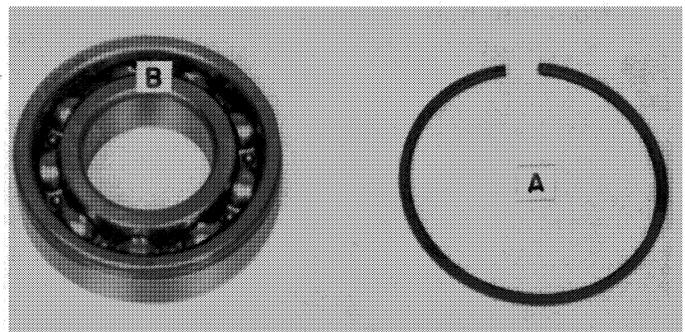

FIGURE 15 A
1. Idler gear bearings, A, Figure 15, should be replaced if there is any horizontal movement in bearing assembly. The bearing is retained in the gear with an internal snap ring. The bearing must be removed with a hydraulic press.
3. Install the shaft part of the special tool down through the flush side of the bearing and gear. **NOTE:** Figure 15 shows the recessed side of the bearing and gear at B, or the bottom side when inserting the special tool.
Sample of manual. Download All 12 pages at: **FIGURE 15**